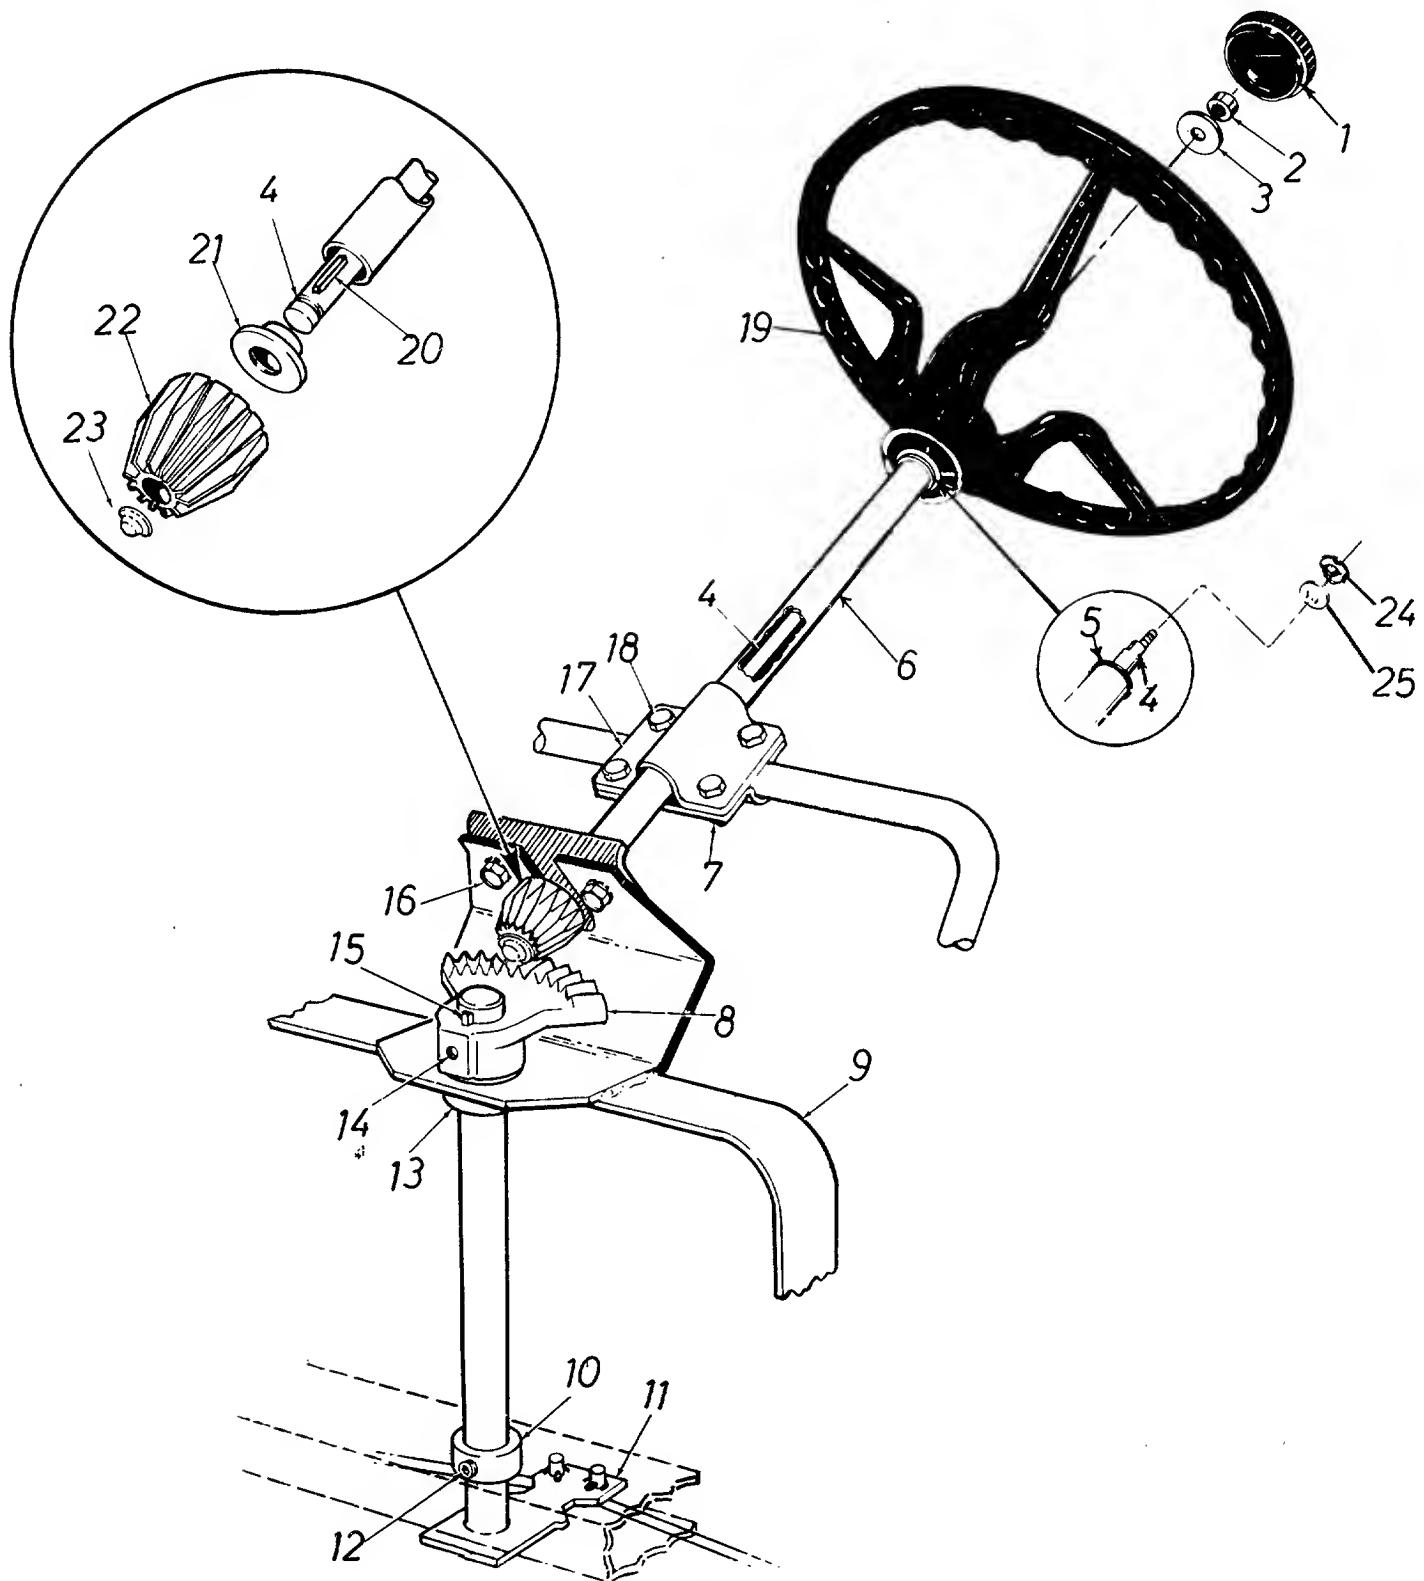

FIGURE 26. STEERING ASSEMBLY
**PARTS LIST FOR FIGURE 26 STEERING ASSEMBLY**